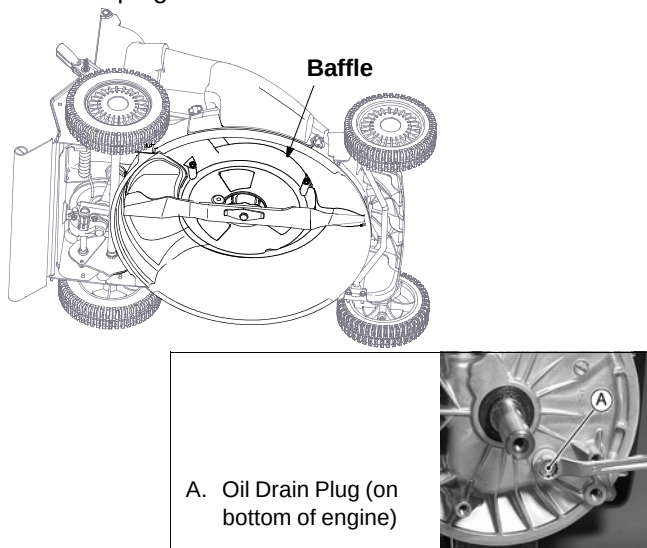

Figure 12
- Run the engine for a few minutes and stop the engine. Tip the mower as shown in Figure 12.
- Access the oil drain plug by removing the baffle and other components following instructions in "Changing Belts" section on page 14. See Figure 12 for location of the baffle.
- Remove the oil drain plug from bottom of the engine. See Figure 12 inset for location of the oil drain plug. Drain oil into suitable container.